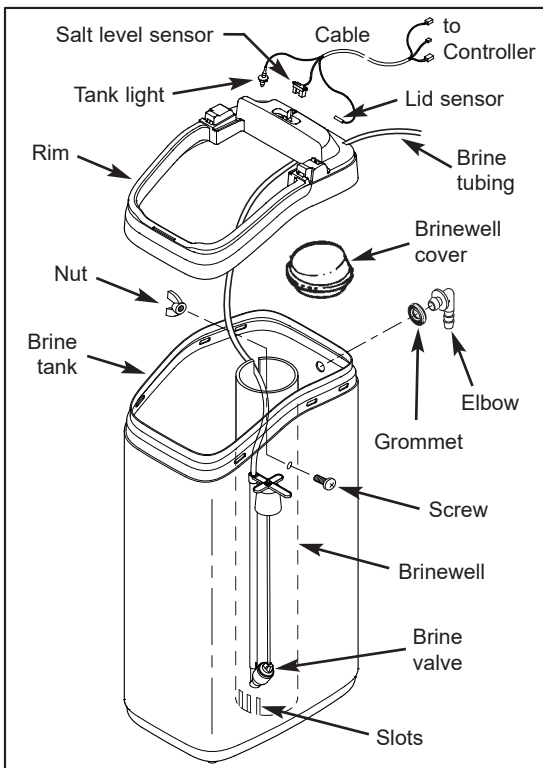

FIG. 4
- a. Snap the rim into place on the brine tank (See Fig. 4).
c. Lower the brine valve into the brinewell. Push the tubing into the brinewell top slot (Fig. 4) and route it out through the hole in the back of the rim.
f. Locate the brine tank cable, one end of which is shipped plugged into the back of the electronic controller (PWA). At the loose end of this cable, identify the tank light, salt level sensor and cover sensor. Insert each of these three items into their corresponding slots in the rim, as shown in Figure 4.